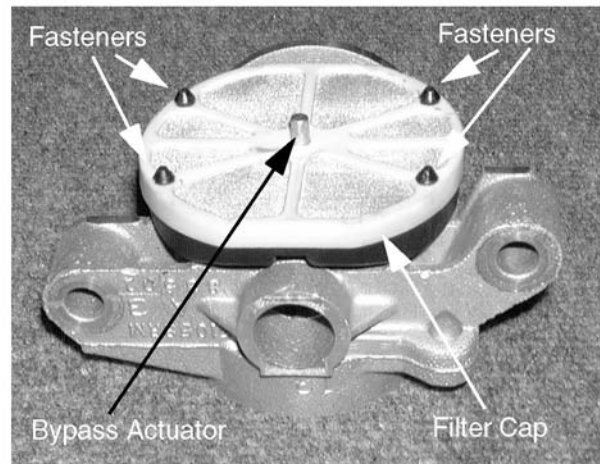

Figure 6-66.
31. Remove the filter cap from the filter base by squeezing the fasteners together using a pair of pliers, and prying up with a flat-blade screwdriver. See Figure 6-66.